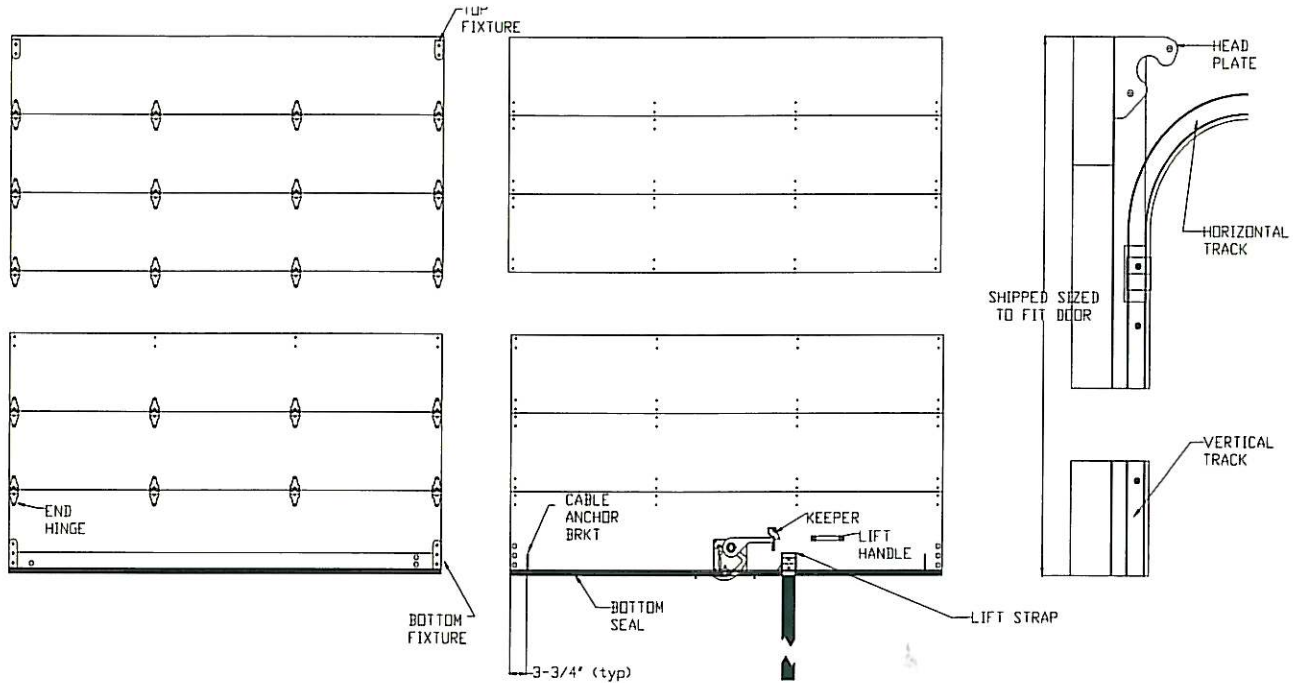

Figure 1
***See Figure 1 for roll-up door components**